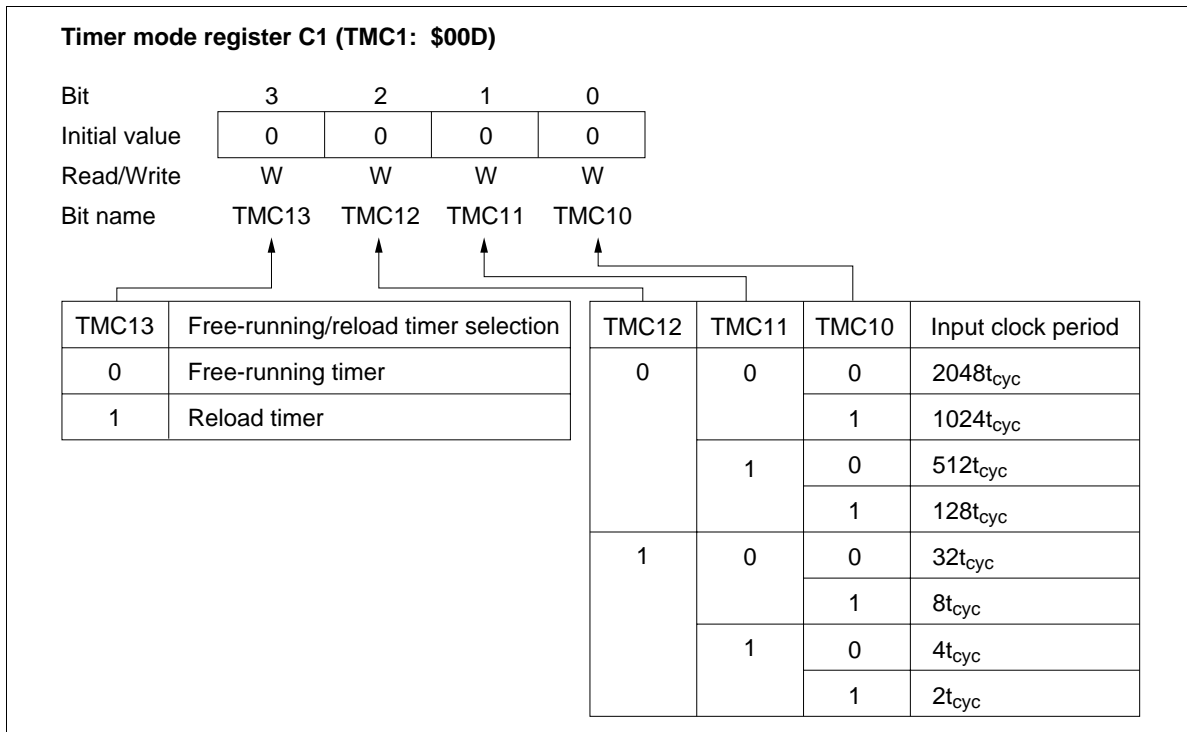

Figure 34 Timer Mode Register C1 (TMC1)
- Timer mode register C1 (TMC1: \$00D): Four-bit write-only register that selects the free-running/reload timer function, input clock source, and the prescaler division ratio as shown in figure 34. It is reset to \$0 by MCU reset.